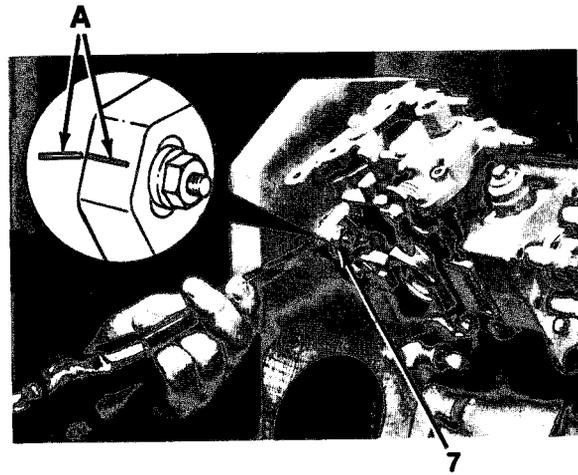
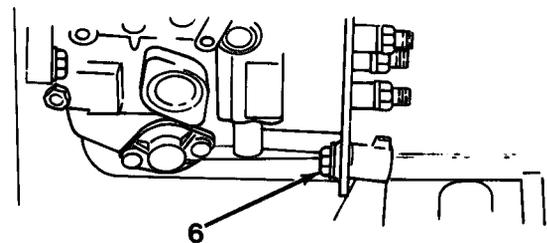

Figure 7-9
Figure 7-8
10. When installing previously removed injection pump, align matchmarks (A, Figure 7-9).
12. Using 13 mm wrench, torque three flange nuts (7) to 18 lb-ft (24 N•m).
13. Using 13 mm wrench, torque rear bracket capscrew (6, Figure 7-8) to 18 lb-ft (24 N•m).